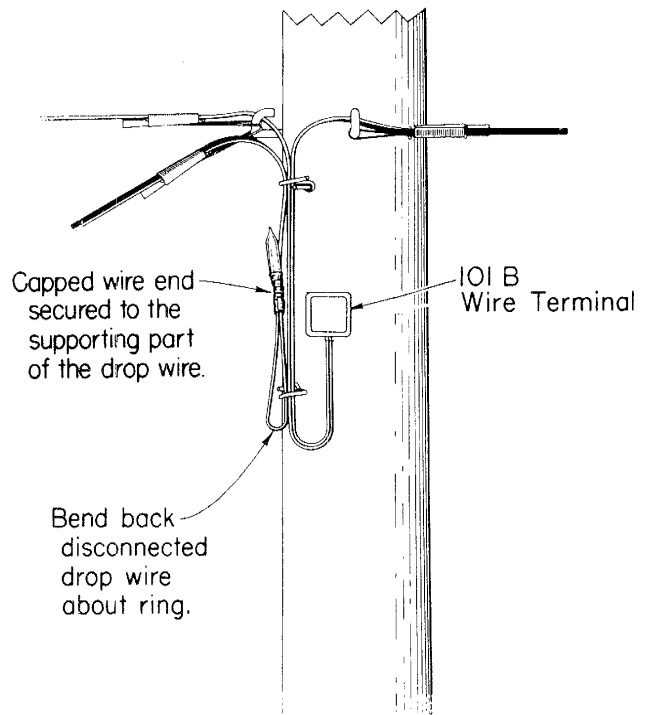

Fig. 9 – 101B Wire Terminal, Pole Mounted
**4.01 Party Line Taps in Drop Wire Runs Along a Lead:** Pull the free end of wire out of the wire terminal, tag and cap it and secure to the supporting part of the drop as shown in Fig. 9. If the party line extending beyond the wire terminal pole is disconnected, treat its free